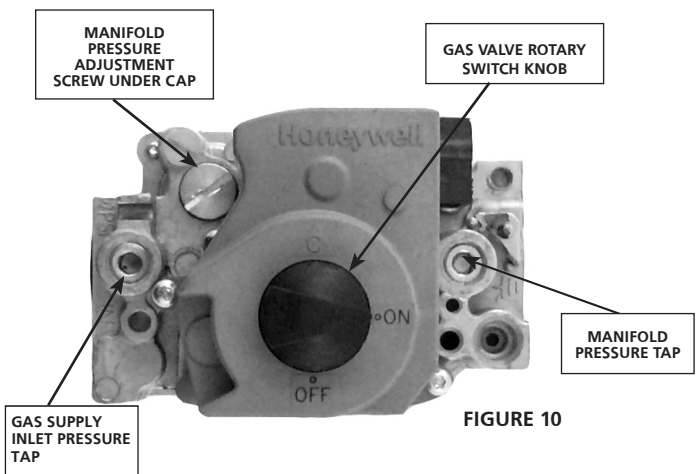

FIGURE 10
5. There is a black rotary switch knob that can be moved between the on and off position. Rotate the switch knob to the off position. (See Figure 10)
2. After line pressure has been checked and adjusted, check manifold pressure. Correct manifold pressure is shown on the unit rating plate. See **figure 10** for gas pressure adjustment screw location. A natural gas to LP/propane gas changeover kit is required to convert unit. Refer to installation instructions provided with changeover kit for conversion procedure.